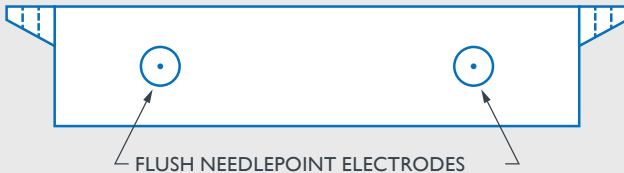

FIGURE 1
3. Mount the unit at or near the fan inlet using the slots in the mounting tabs, insuring that air flows over the two needlepoint electrodes simultaneously. Short sheet metal screws should be used to mount the ionizer to the fan casing to avoid interference with the fan blades. See Figures 1 & 2.